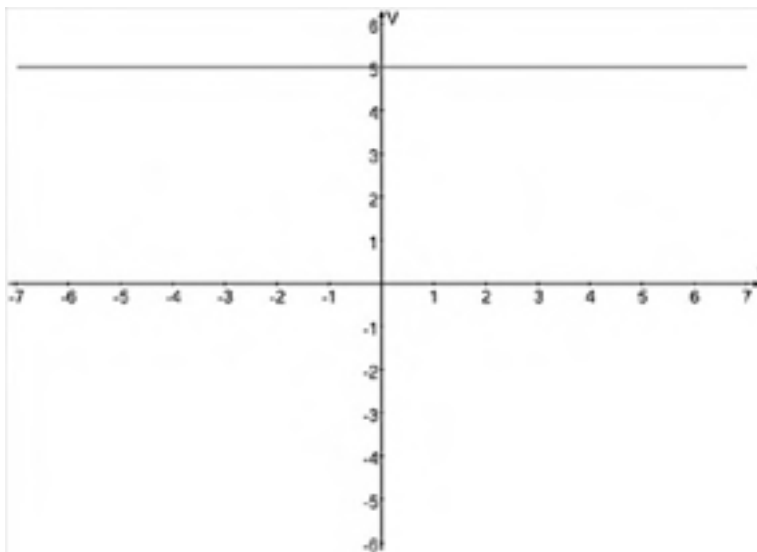

Fig. 10-1. 5-volt signal.
So far, our electrons have flowed as a current from one place to another, not unlike a river flowing downstream. You might say it flows directly from one position in a circuit to another, making it *direct current (DC)*. If you were to watch the voltage level at one point in a DC circuit, it might look like the 5-volt trace in Fig. 10-1.